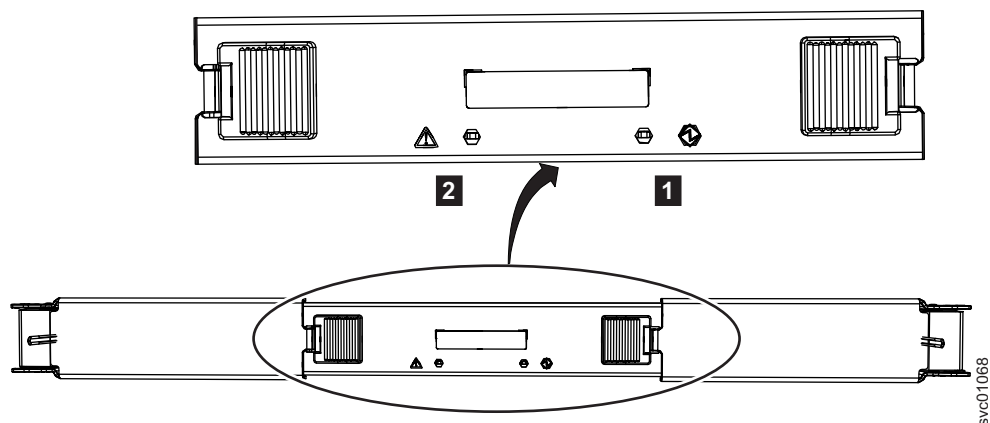

Figure 58. LEDs on a secondary expansion module
2. Identify the secondary expander module to be replaced; Figure 58 on page 76 shows the LEDs on top of a secondary expansion module.